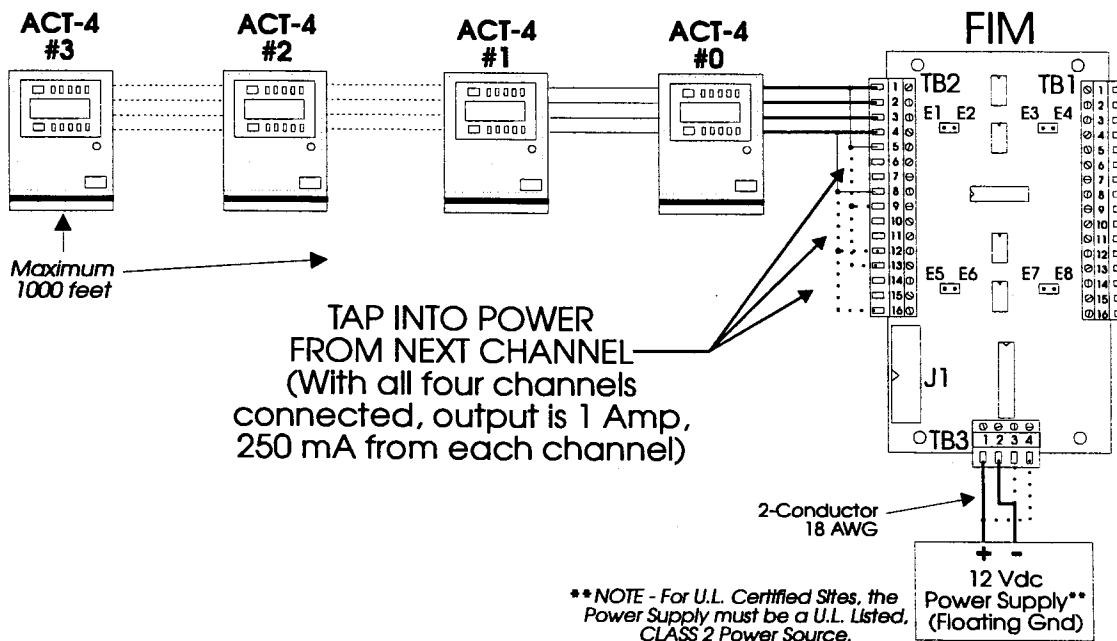

Figure 3-50. FIM SUPPLIED READER POWER CONNECTIONS
As previously stated, ACT reader/device power can be supplied directly from the FIM connections, if desired. A local 12 Vdc power supply must be installed at the RTU location (typically within 6-10 feet) and connected to the FIM board TB3, terminals 1 & 2 with a 2-conductor, 18 AWG cable, as shown in Figure 3-50 below. Each of the eight (8) reader connections on the FIM terminal blocks (4 connections each on TB1 & TB2) provides a Current Limited, reader power output connection, as shown in Figure 3-48. Each connection (i.e., TB1-1 & 4, TB2-1 & 4, TB1-5 & 8, TB2-5 & 8, etc.) provides a completely isolated power output that is current limited at a maximum of 250 mA, which is sufficient to power at least one ACT reader. If more than one ACT unit is to be multidrop connected and powered on the same channel, the power connection from other unused channels must be jumpered or strapped together to the channel being used in order to increase the current as required. Overall cable length for providing power on a single channel cannot exceed 1000 feet, with 16 or 18 AWG cable, from the FIM to the furthest ACT unit.